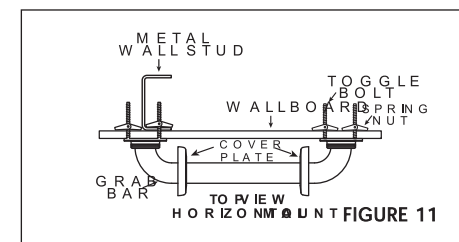

FIGURE 11
- Position the end of the Grab Bar with the TOGGLE BOLTS attached so that you can push the spring nuts and butt ends of the TOGGLE BOLTS through the corresponding holes that have been drilled. The spring nuts *must be completely* through the holes in the wall (see Figure 11).
- Pull the TOGGLE BOLTS on one end of the Grab Bar toward you and finger tighten the bolts to be sure that spring nuts have opened fully against the back side of the wall and metal wall studs (see Figure 11). If the spring nuts have not opened fully, loosen the bolts and repeat Step 6.